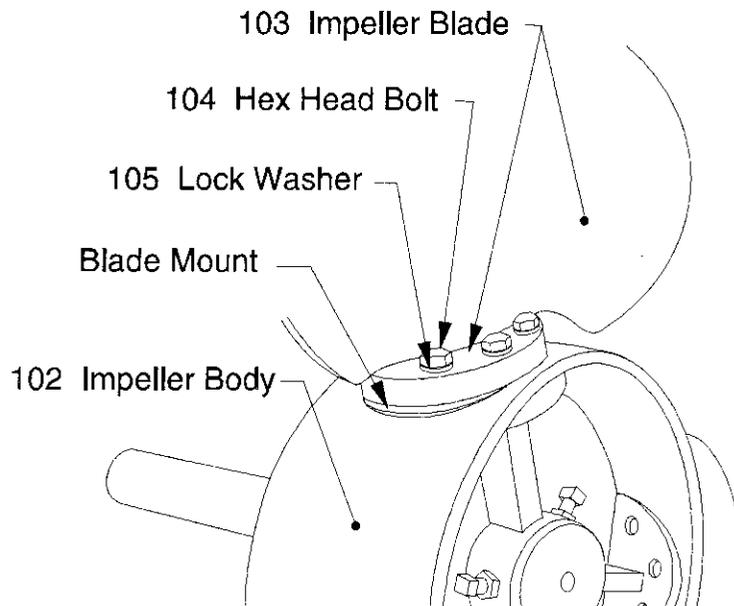

Figure 10: Removable Blades - Maxflo Mark II Impeller
1. Match impeller blades (103) to the corresponding mounting as shown in Figure 10.
2. Insert the bolts (104) lock washers (105) and fasten the blades into place. Tighten each bolt to the full recommended torque value, Table 13, page 81.